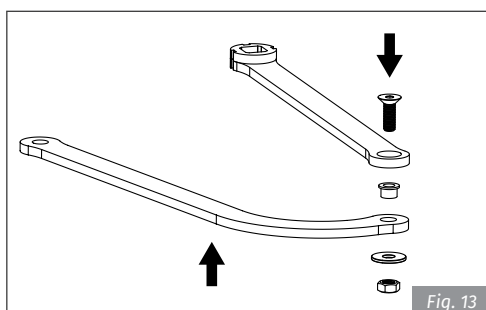

Fig. 13
- If you install only one motor and the arm is not in the correct position, you can easily change the direction following the indications in the picture Fig. 13.